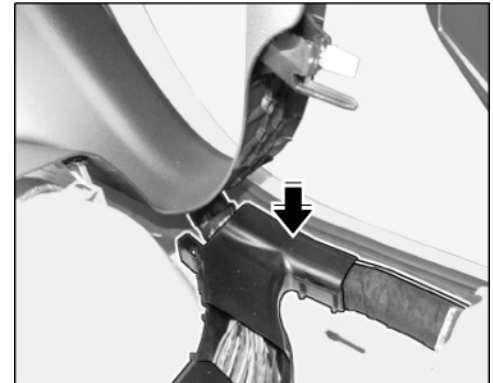

Figure 10
2.3.4 Close rear left cable duct (⇒ *Figure 10*-arrow-).